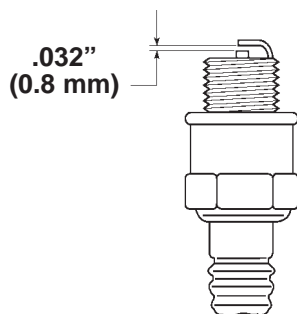

Figure 10
3. Set the air gap to 0.032" (0.8 mm) (Fig. 10).